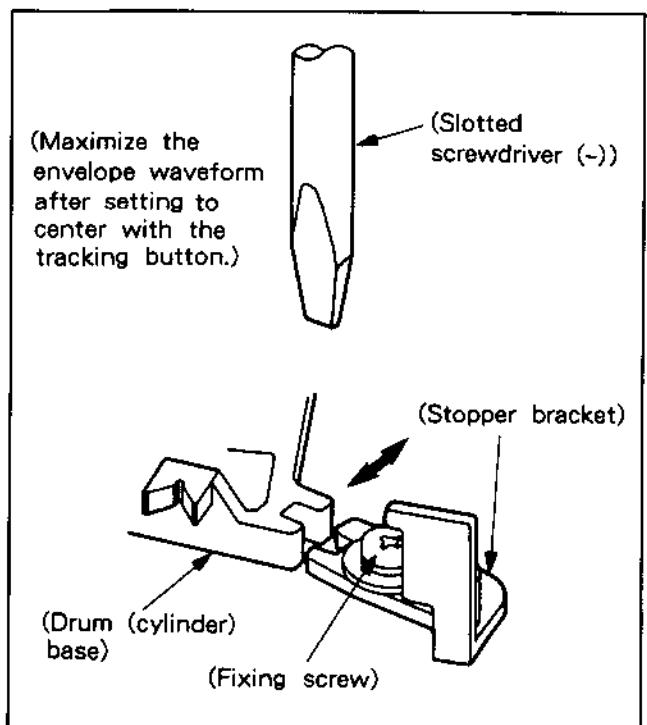

Fig. 5-4-8.
- (2) Tracking (X Value) Adjustment (See Fig. 5-4-8.)